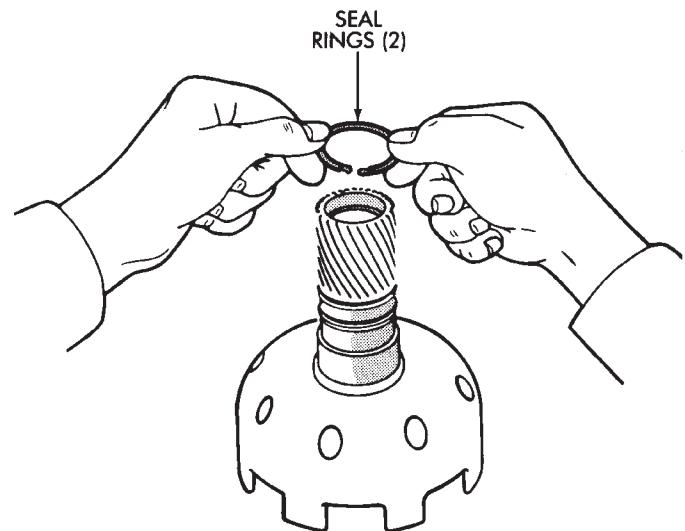

Fig. 5 Removing/Installing Sun Gear Seal Rings
(4) Remove two seal rings from sun gear (Fig. 5).